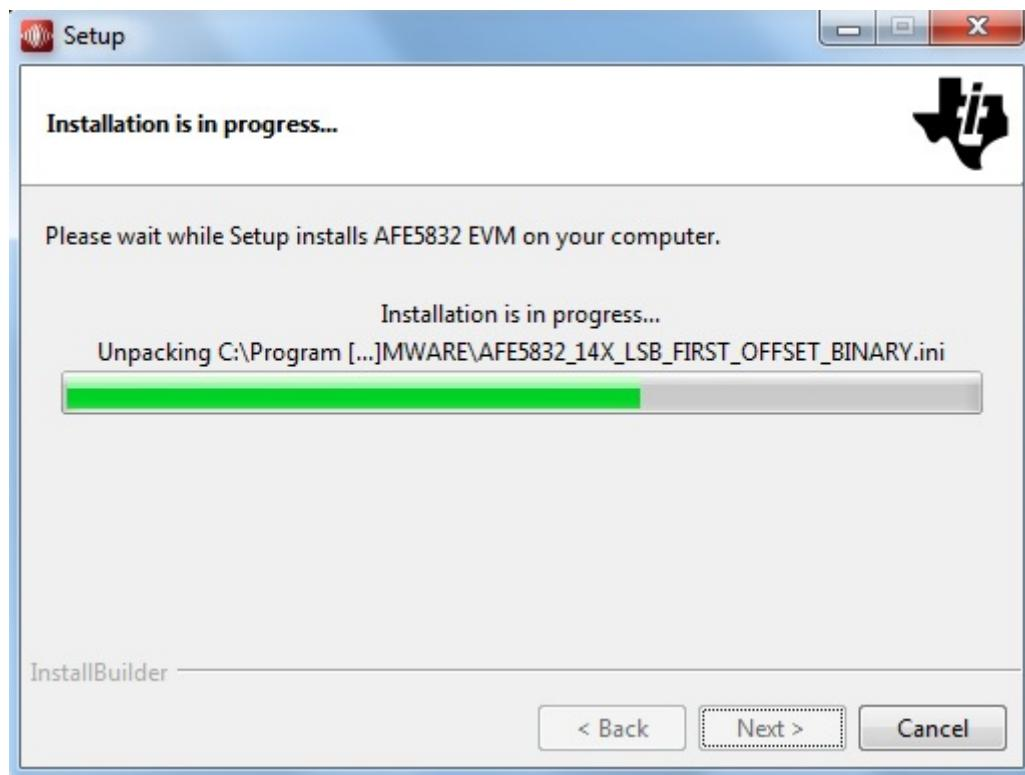

Figure 38. AFE5832 GUI Install (Installation Progress)
8. The window shown in Figure 38 appears showing that the installation is in progress.